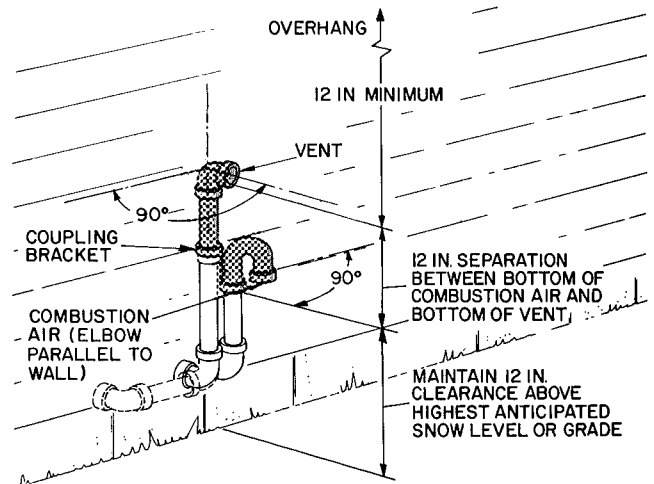

Fig. 5 — Sidewall Vent Terminal Installation (less than 12 in. above snow level or grade)
Install kit as follows when combustion-air and vent pipes exit through sidewall less than 12 in. above highest anticipated snow level or grade (Fig. 5):
NOTE: The solid-line arrangement in Fig. 5 is preferred. The dashed-line arrangement shown is an option for the vent pipe only.
4. Loosely install U-fitting and bracket as shown in Fig. 5. Position U-fitting so that open end is against structure wall.
5. Loosely install vent-pipe assembly in coupling as shown in Fig. 5.
6. Check required dimensions as shown in Fig. 5.
8. Install bracket as shown in Fig. 5.